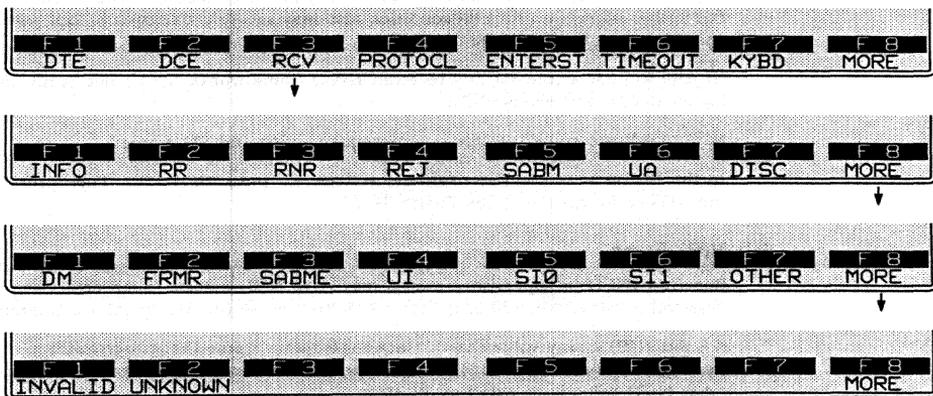

Figure 39-14 *INVALID* and *UNKNOWN* are frame types for RCV conditions.
The Protocol Spreadsheet entry for this condition is RCV INVALID, and the softkey sequence is illustrated in Figure 39-14.
4. *Type unknown.* A frame may be valid in all respects but have a control field that indicates a nonstandard frame type. Such a frame may be matched by a RCV UNKNOWN condition (Figure 39-14).